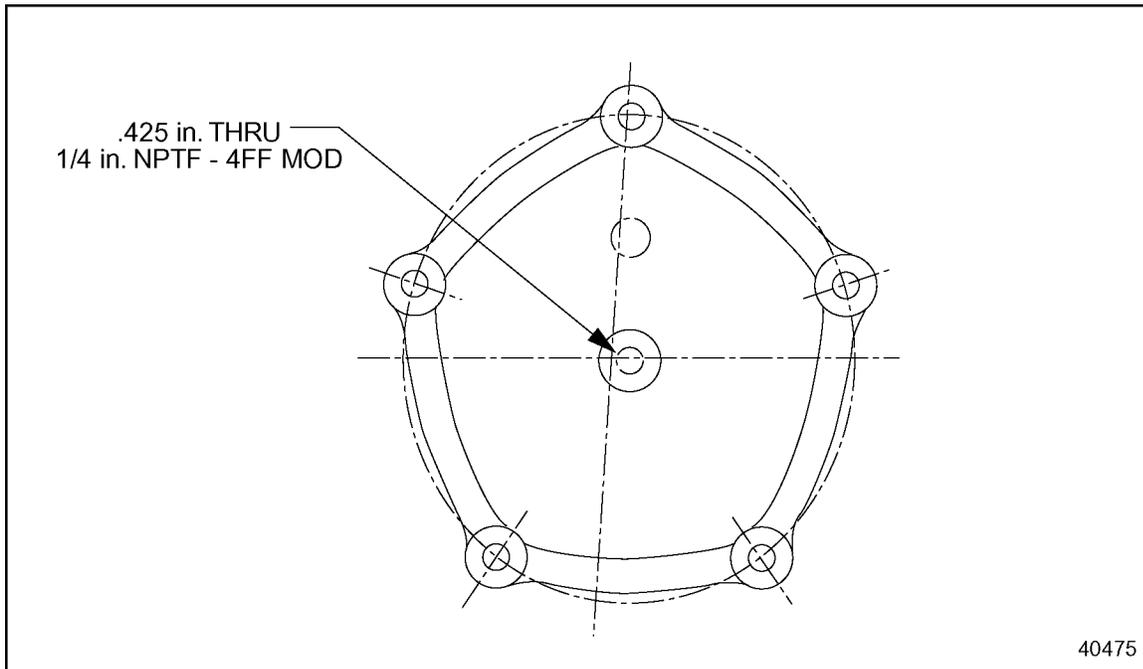

Figure 5 Drilled and Tapped Vent Line Hole in Front Camshaft Cover
7. The center hole in the cover has a 1/8 in. NPTF thread which must be enlarged. Using a .425 in. drill bit, carefully drill out the tapped hole. Thread the hole with a 1/4 in. NPTF - 4FF tap. See Figure 5.